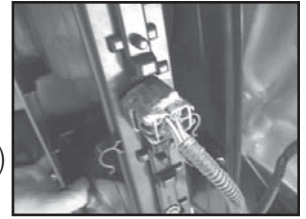

Fig. 1
2. Beginning with the left (drivers) side tail light assembly, remove the gray wiring harness connector from the back of the housing by squeezing the locking tabs. Inspect the connector for dirt & debris and clean if necessary (Fig. 1).